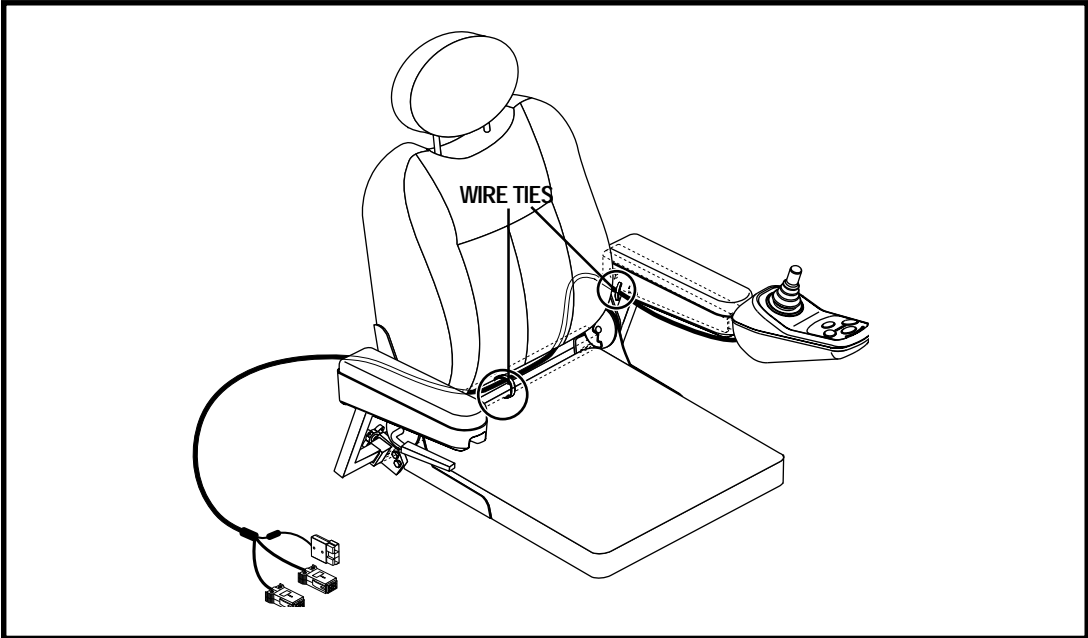

Figure 13. VSI Controller Routed on a High-Back Seat with Solid Seat Pan
8. Secure the controller cable to the armrest receiver with wire ties (contour seat only). See figure 13.